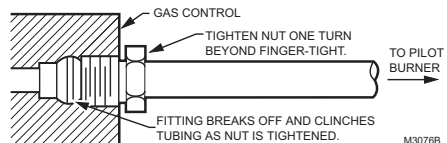

Fig. 7. Always use new compression fitting.
5. Push tubing into the pilot gas tapping on the outlet end of the control until it bottoms. While holding tubing all the way in, slide compression fitting into place, engage threads and turn until finger tight. Then tighten one more turn with wrench. Do not overtighten. Refer to Fig. 7 and 8.